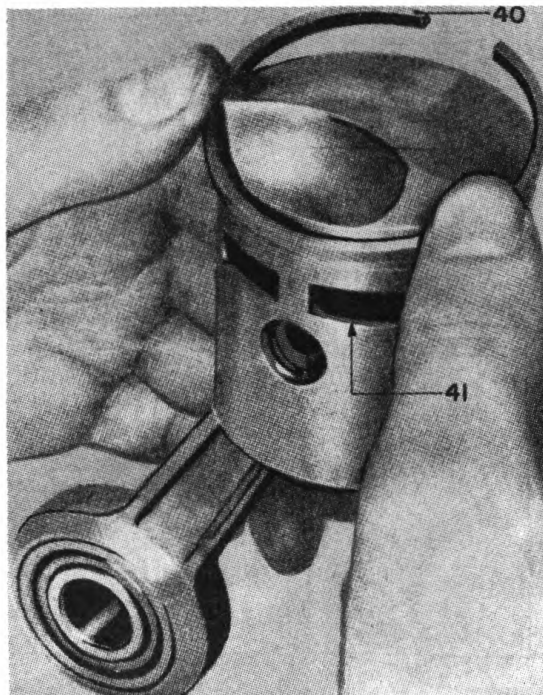

FIGURE 4.
(6) *Piston ring.*—Ring (40, fig. 4) should be free in the groove. If a ring sticks, it should be removed and the carbon scraped from the ring groove before replacement with properly cleaned old ring or with new ring in the event the old ring is badly worn.
(a) When replacing piston ring, to avoid breaking, place ring around piston (fig. 4) with opening opposite intake ports (41), start-